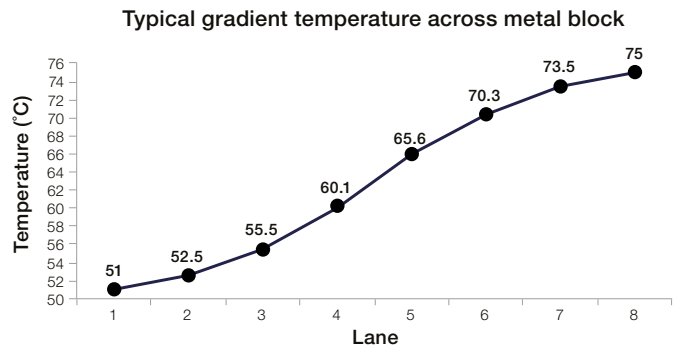

Figure 3. Nonlinear gradient temperature.
- A true linear gradient is not achievable because of heat interactions between the high and low temperature set at each end of the homogeneous metal block. Instead of a linear gradient, the temperature across a homogeneous metal block follows more of a sigmoidal curve, as shown in Figure 3.